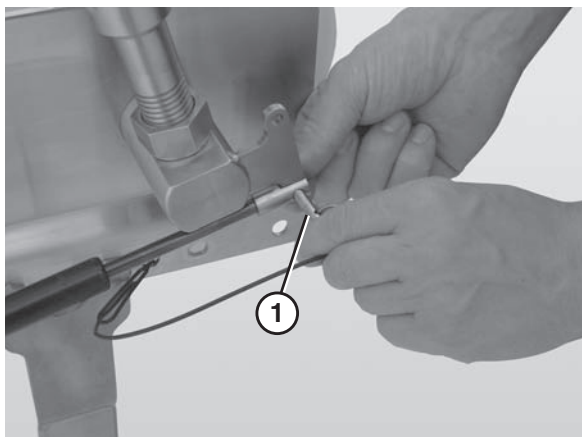

Figure 86
2. Remove the pull pin (**Figure 86, item 1**).